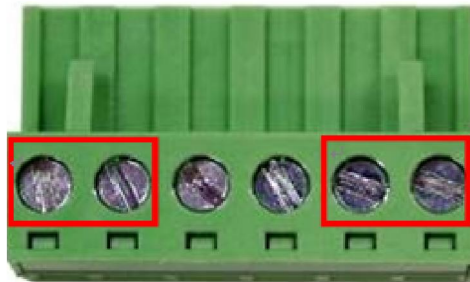

Figure 2.15
2. Tighten the wire-clamp screws to prevent the wires from loosening, as shown below in *Figure 2.15*.